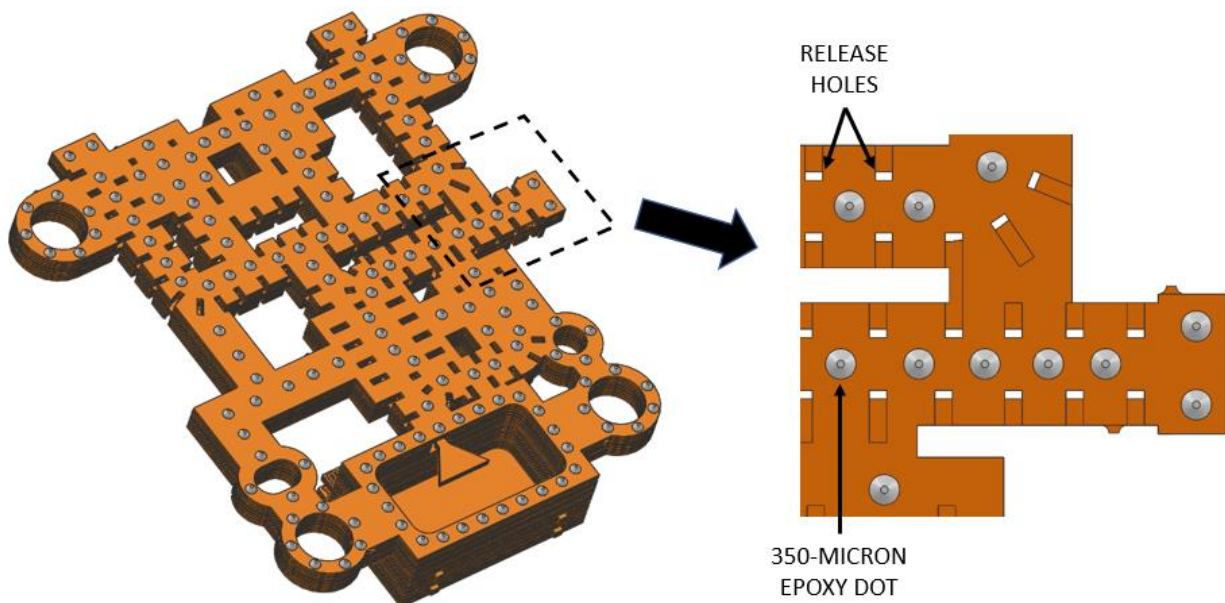

Figure 10: Example conductive epoxy dot pattern applied to bottom of PSX40D05V2W
1. Place sintered silver or epoxy dots across the entire surface, approximately centered between release holes as shown in Figure 10.